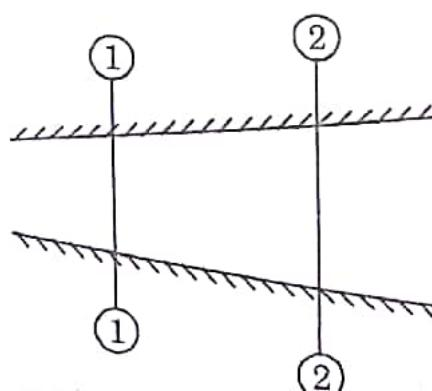

Fig. 4.4.1. Fluid flow through a pipe.
1. Consider two cross-section of a pipe as shown in Fig. 4.4.1.